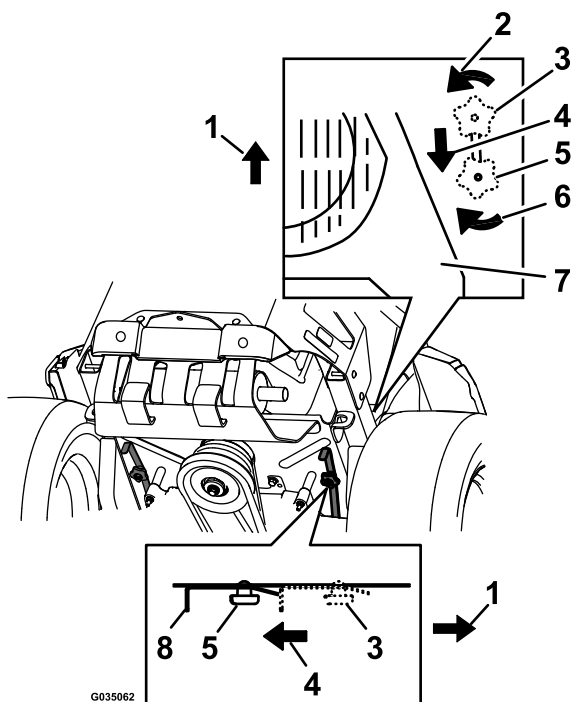

Figure 37
4. To push the machine, move both bypass knobs rearward and lock them into place (Figure 37).